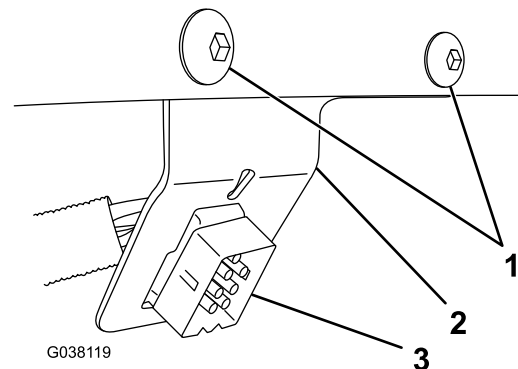

Figure 9
3. Mount the plow controller connector to the dash bracket, and secure the bracket to the left of the steering wheel using 2 self-tapping bolts (Figure 9).